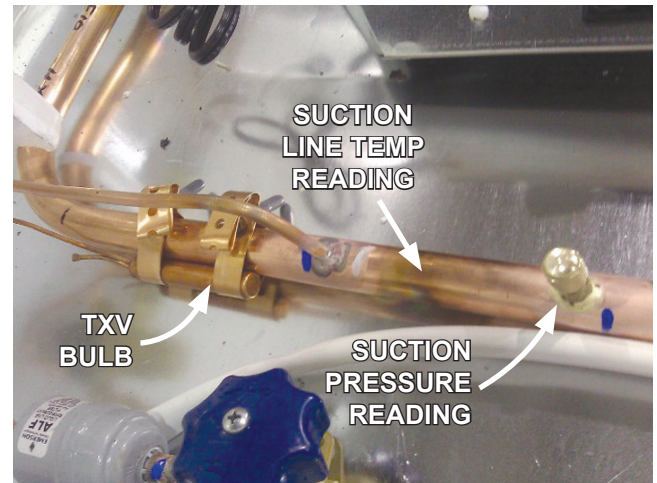

Fig. 5 Obtain pressure and temperature readings
1. Obtain suction pressure from access port; obtain suction line temperature from area near TXV bulb at the outlet of evaporator coil (Fig. 5).